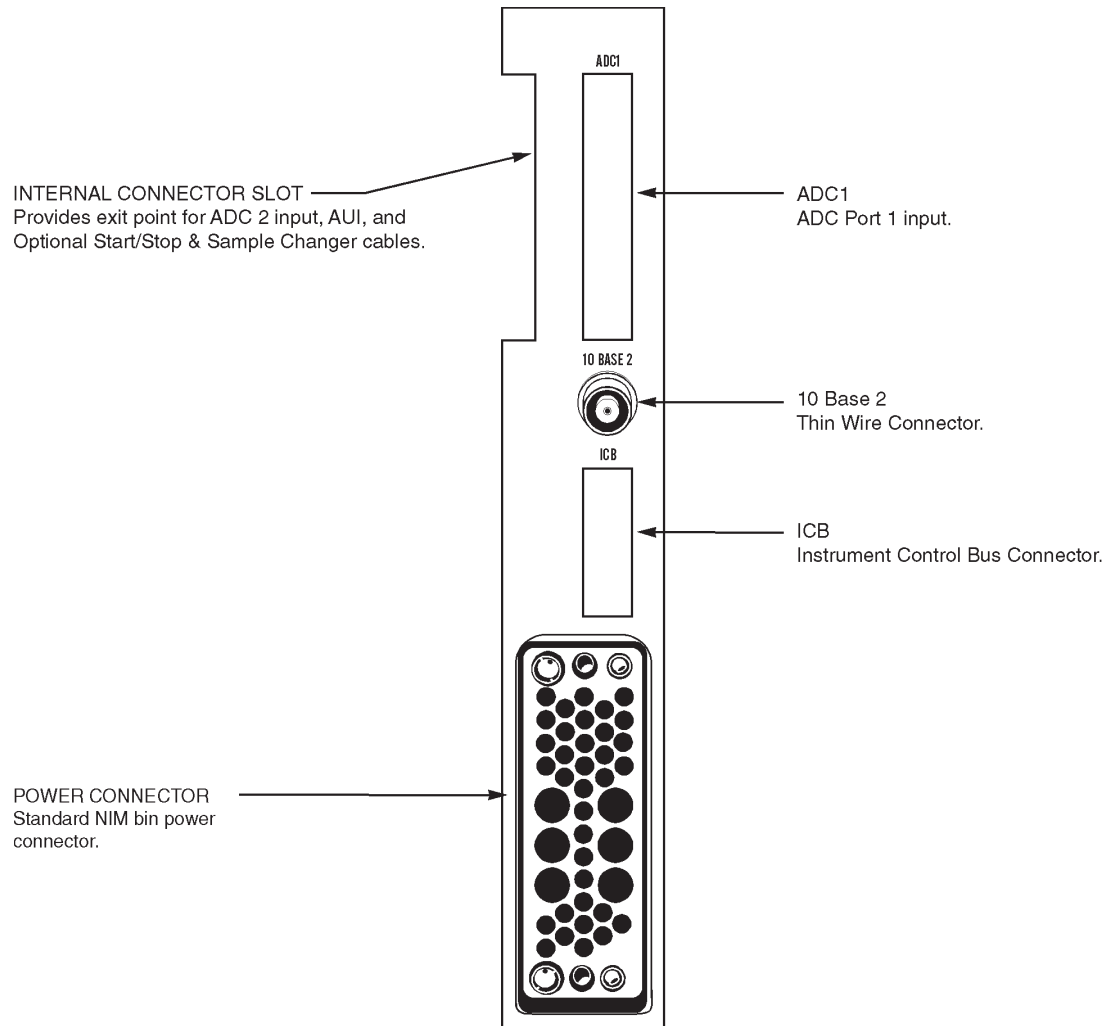
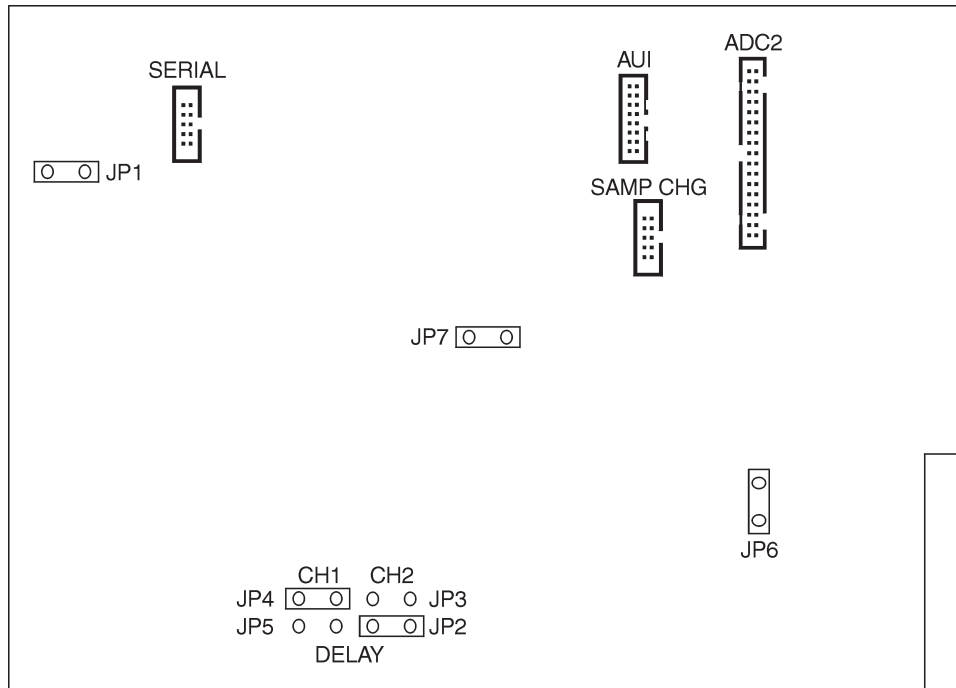

Figure 2 Rear Panel Connectors
Figure 3 Internal Controls and Connectors
1. When the AIM is shipped from the factory, the transfer times for both ADCs are set at 1 μ s. This will allow a maximum cable length of 4.5 m (15 ft). If these are the desired settings, go to step two. If you'd like to change the transfer time settings, remove the 556A's right side-panel. Referring to Figure 3 on page 4, change jumpers JP2-JP5 then replace the right side-panel.
3. For 10 Base 2 applications, connect the thinwire network to the 556A's 10 Base 2 port with a “T”-connector (Figure 2 on page 3).
For external Ethernet transceiver applications the AUI cable needs to be installed. To install the AUI cable remove the top cover and plug the AUI cable into the AUI connector (Figure 3 on page 4) and feed the AUI cable through the internal connector slot on the rear panel (Figure 2 on page 3) to connect the AIM module to the external Ethernet transceiver. Refer to the external Ethernet transceiver documentation for connection details. The AIM connects to any IEEE 802.3 compliant transceiver, such as a DEC DESTA and H4000.
4. Orient the cable from the ADC or AMX (see Figures 27, 28 or 29 starting on page 53) so that its pin one indicator (an arrow on the connector itself or a highlighted colored cable) is up and connect it to one of the keyed 34-pin ADC connectors on the AIM's rear panel. See Figure 2 on page 3 for location of the connectors.